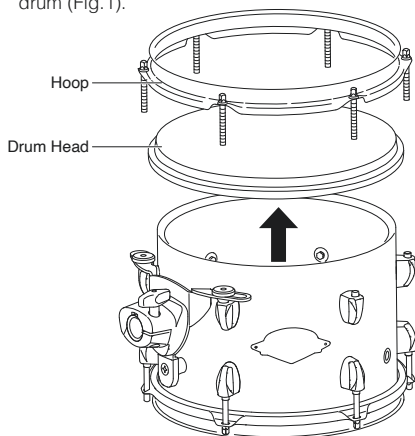

Fig.1
1. Remove the Batter Side Hoop and Head from the drum (Fig.1).